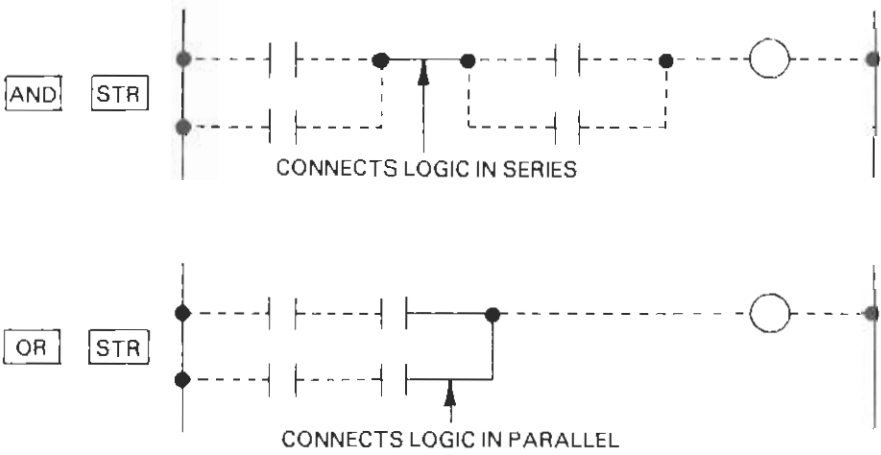

Figure 5.6 AND STR and OR STR CONNECTIONS
Two very useful functions are programmed using a sequence of 2 keys, the AND STR and the OR STR. The AND STR provides a common series connection between a group of logic and the OR STR provides a common parallel connection for a group of logic. These functions provide the connecting links not possible with any of the previously mentioned functions. Figure 5.6 illustrates the use of these functions. The logic used with this type of operation is referred to as a push-down stack. The push-down stack can accommodate up to eight levels (groups) of logic. A push-down stack can be thought of as a temporary storage area to allow the combining of elements in series (AND) or parallel (OR) connections.